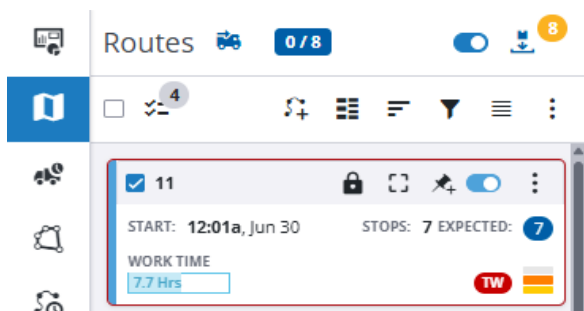

Figure 41 - Example Route card
- The count on the icon at the top of the panel increases as cards are checked (see *Figure 41* above).